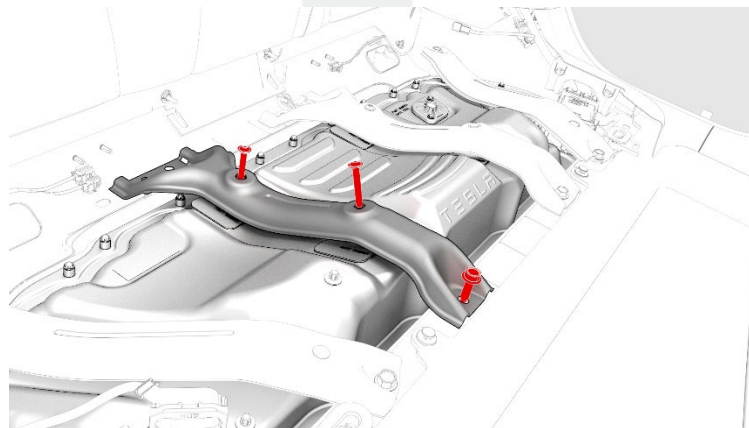

Figure 2 (RH inner 2nd row rail and bolts)
3. Remove the RH inner 2nd row rail (Figure 2) (refer to Service Manual procedure 13052202).
9. Install the RH inner 2nd row rail (Figure 2) (refer to Service Manual procedure 13052202).